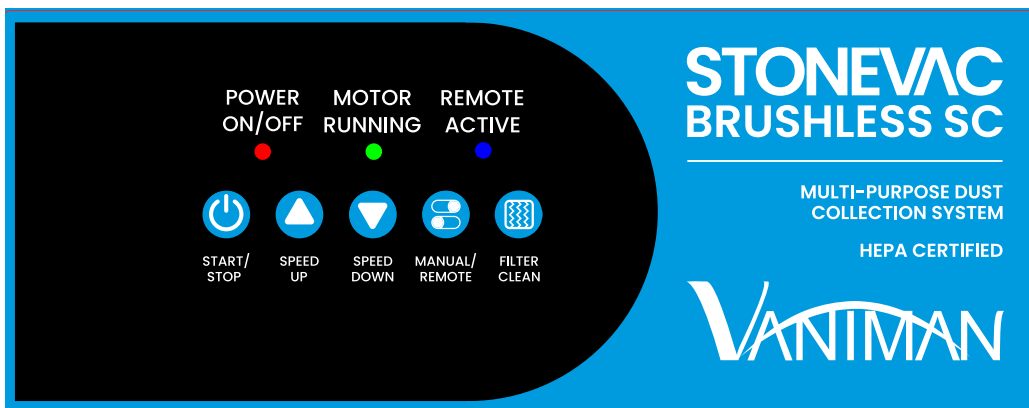
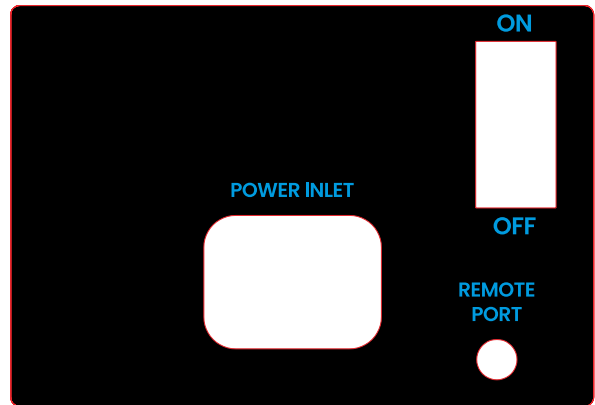

Fig. 1
Fig. 2
4. When you are ready to use your StoneVac, press the button on the front of the unit labeled *START/STOP* (Fig. 1). Once pressed, the motor will begin to run at the lowest available speed and the green LED indicator will illuminate on the front of the StoneVac.
7. Plug the remote into the *REMOTE PORT* (Fig. 2) on the back of the unit then press the *MANUAL/REMOTE* button on the front of the unit (Fig. 1). The blue LED indicator on the front control panel will illuminate signifying the unit is being controlled by the connected remote(s). Test this by flipping your remote switch into the *ON* position and the StoneVac will start running at the speed you set it at in step #6.